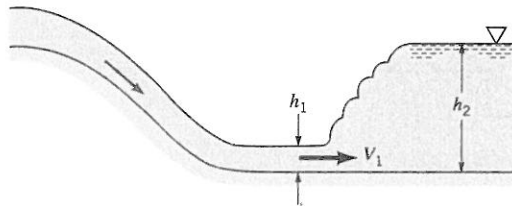

Figure P5.130
**5.130**  Near the downstream end of a river spillway, a hydraulic jump often forms, as illustrated in Fig. P5.130 and Video V10.11. The velocity of the channel flow is reduced abruptly across the jump. Using the conservation of mass and linear momentum principles, derive the following expression for  $h_2$ ,
■ Figure P5.130